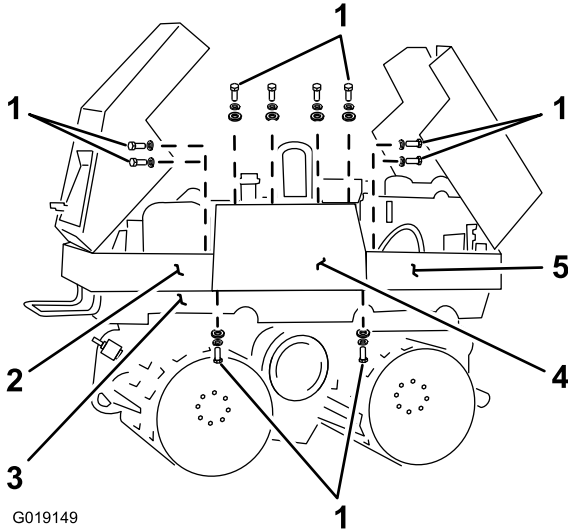
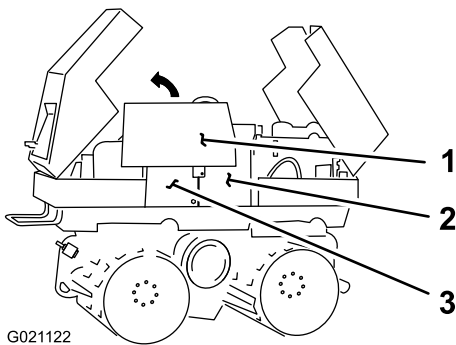

Figure 76
Figure 77
- B. Place a waste oil container with a 57 L (15 US gallons) capacity under the drain plug at the right-lower side of the hydraulic tank (Figure 77).
- C. Remove the drain plug and allow the hydraulic fluid to drain into the container (Figure 77).
- E. When the hydraulic oil is drained from the tank, install the drain plug in the drain plug hole, and tighten (Figure 77).
1. Remove the bolts and washers that secure the front of the right-side panel to the **front-hood rail** (Figure 76).
1. Align the right-side panel with the mounting points at the hydraulic tank, fuel tank, upper frame, rear-hood rail, and front-hood rail (Figure 76 and Figure 77).
2. Secure the right-side panel to the **hydraulic tank and fuel tank** with the bolts and washers (Figure 76) removed in step 4 in Removing the Right-side Panel (page 57).
3. Secure the right-side panel to the **front and rear hood rails** with the bolts and washers (Figure 76) removed in steps 1 and 2 in Removing the Right-side Panel (page 57).
4. Secure the right-side panel to the **upper frame** with the bolts and washers (Figure 76) removed in step 3 in Removing the Right-side Panel (page 57).
2. Remove the bolts and washers that secure the back of the right-side panel to the **rear-hood rail** (Figure 76).
3. Remove the bolts and washers that secure the right-side panel to the **upper frame** (Figure 76).
4. Remove the bolts and washers that secure the top of the right-side panel to the **hydraulic tank and fuel tank** (Figure 76).
5. Remove right-side panel from the machine chassis as shown in Figure 77.